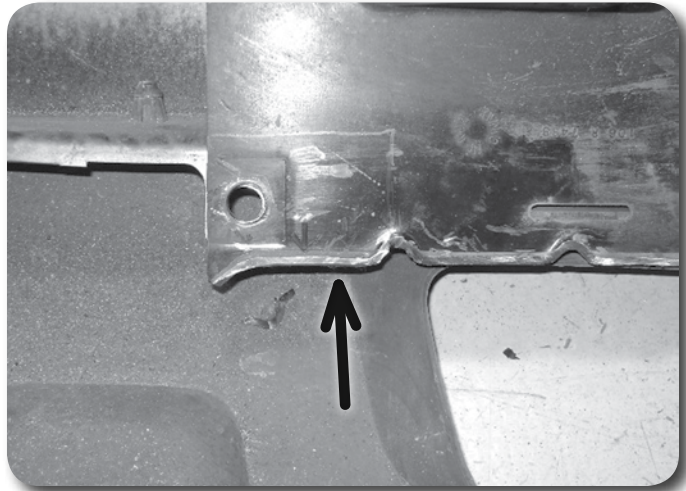

Figure 20
43. Trim the brackets off flush with the vertical bracket surface. Grind the cut edge flush with the vertical face so the new bracket will set flush. **Figure 20**